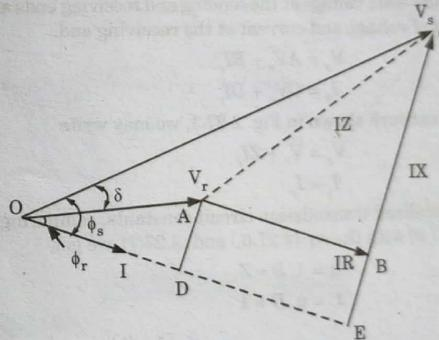

Fig. 2.27.2. Phasor diagram.
2. From Fig. 2.27.2, we can write